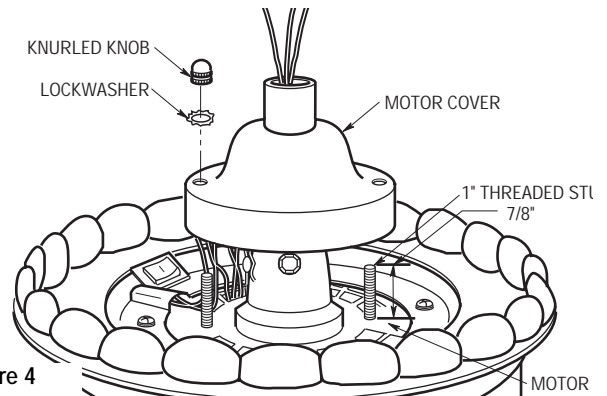

Figure 4
6. Screw two 1" threaded studs (supplied) into the motor (Figure 4). Leave approximately 7/8" of the stud extending above motor. Slide the motor cover over the downrod and rotate the cover until the threaded studs protrude; install two lockwashers and knurled knobs (supplied) to secure the cover.